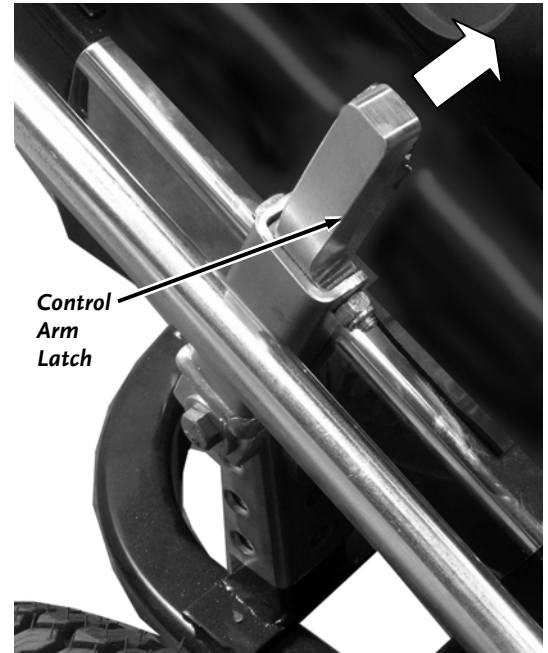

Figure 8
1. To change the Operator's position from the Driver's Seat to the Walk-Behind mode, push the Control Arm Latch in (**Figure 8**), and then using the Handle on the side of the Control Arm, lift and rotate the Control Arm back to the Walk-Behind position.